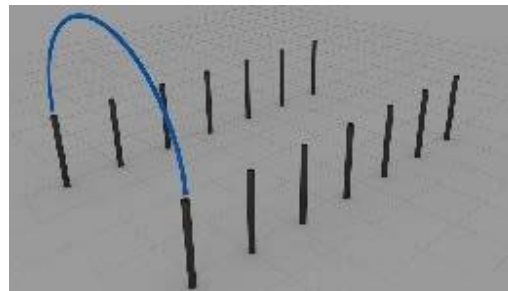

Fig 3.1 Bow Installation
- After bows have been assembled, raise upright and place ends in ground stakes (Fig 3.1) and attach with tek screws.